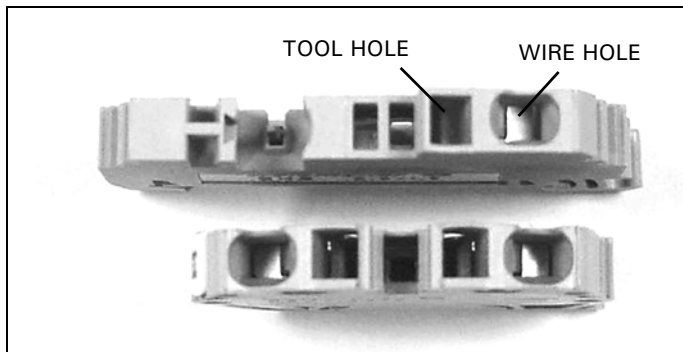

Figure 18. Tension Clamp Terminal Blocks.
Step 1: Figure 18 shows two tension clamp terminal blocks. There is a large one and small one, but the operation is the same for both. A small tool, such as a screwdriver, will be pushed into the square hole next to the wire hole and a wire will be inserted into the larger circular hole on the outer edge.